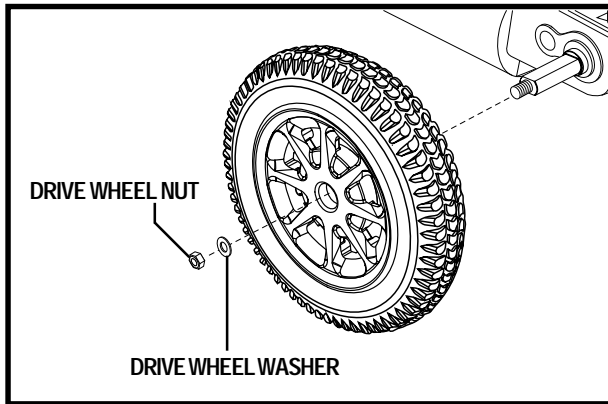

Figure 27. Quantum 1122 Drive Wheel
4. Remove the drive wheel nut and washer from the axle. See figure 27.